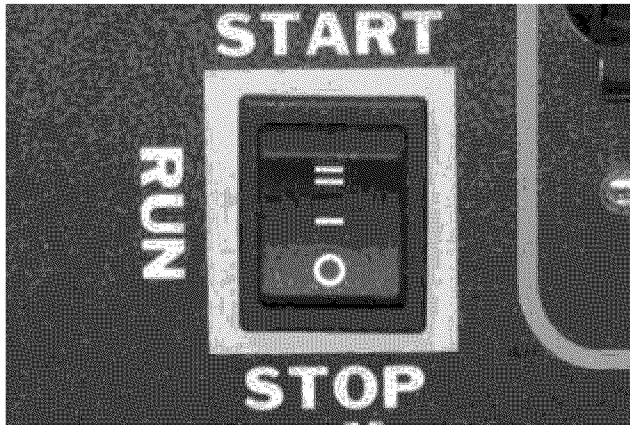

Figure 29 – Engine Control Switch
5. Push and hold the engine control switch in the **START** position until the engine starts. Once the engine starts, release the engine control switch; the switch will automatically move into the **RUN** position (see *Figure 29*).